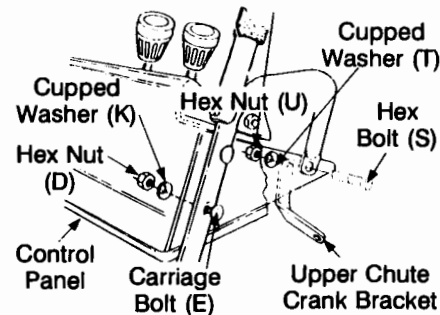

FIGURE 3
- Place the control panel assembly in position between the handles so the ends of the handle go through the slots in the control panel assembly. See Figure 3. **Note:** Flat sides on the ends of the handles should be towards the inside to attach to the handle panel support.
- Attach the front of the control panel assembly loosely using carriage bolt (E), cupped washer (K) and hex nuts (D). See Figure 3.
- On the **left side** (shown in Figure 3) position the upper chute crank bracket to the inside of the handle panel support. Insert hex bolt (S) through the handle, handle panel support, upper chute crank bracket and secure using cupped washer (T) (cupped side against the bracket) and hex nuts (U). See Figure 3.
- On the **right side** only (not shown in Figure 3) attach handle to the rear of the handle panel support using hex bolts (S), cupped washers (T) (cupped side against the support) and hex nuts (U). See Figure 3.